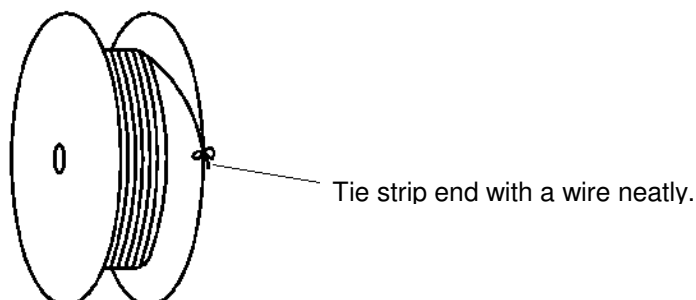

Fig.6
- (3) Avoid storing the contact reel in a moist or dusty place. Stock the reel in a comparatively dry and clean place (5~35°C, 45~85%RH) away from direct sunlight.
- (4) When removing the contact reel from the machine, fasten the end of the contact strip onto the edge of the reel with use of proper string or wire. Fig 6.